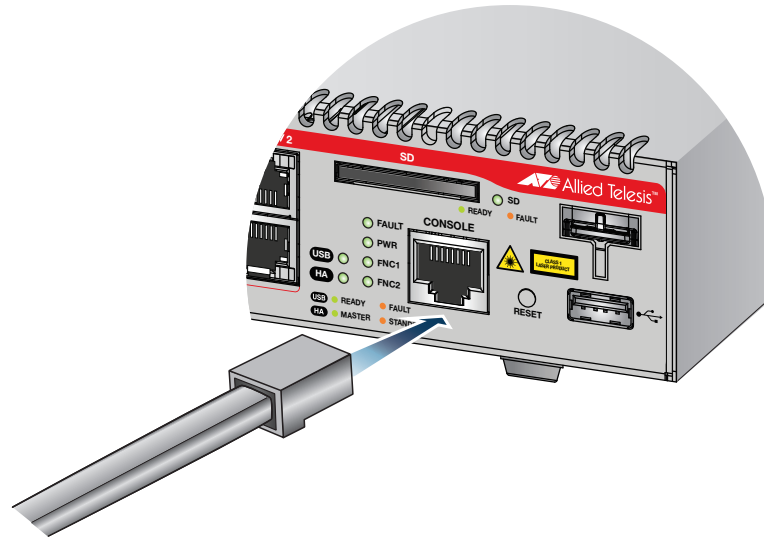

Figure 15. Connecting the Management Cable to the Console Port
1. Connect the RJ-45 connector on the management cable to the Console port on the front panel of the router, as shown in Figure 15.